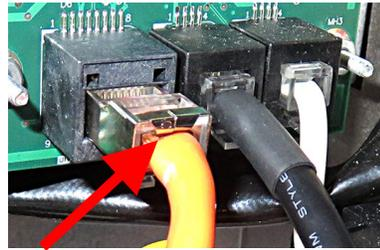

Figure 9
13. Disconnect the RJ45 controller cable from the SIB board (see Figure 9).